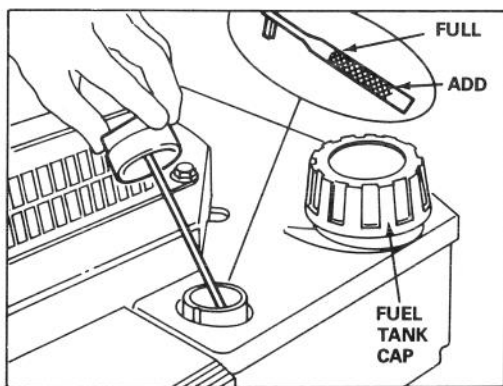

Figure 3
3. Wipe dipstick and insert it into filler neck. Rotate cap clockwise 1/4 turn. Then remove dipstick and check level of oil (Fig. 3). If level is low, add only enough oil to raise level to FULL mark on dipstick. **DO NOT FILL ABOVE FULL MARK BECAUSE ENGINE COULD BE DAMAGED WHEN STARTED.**
1. Clean around fuel tank cap and remove cap from tank (Fig. 3). Using unleaded gasoline, fill fuel tank to within 1/2 inch (13 mm) from top of tank.